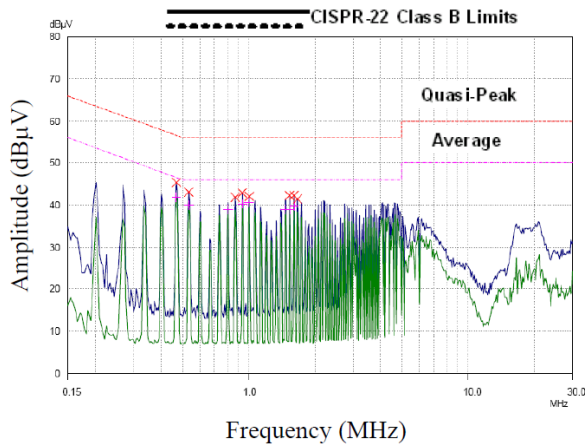

**Figure 20. Burst Mode Operation**
**6. Burst Mode Operation:** To minimize power dissipation in Standby Mode, the power switch enters Burst Mode operation. As the load decreases, the feedback voltage decreases. As shown in Figure 20, the device automatically enters Burst Mode when the feedback voltage drops below  $V_{BURH}$  (600mV). Switching continues, but the current limit is set to a fixed limit internally to minimize flux density in the transformer. The fixed current limit is larger than that defined by  $V_{FB} = V_{BURH}$  and, therefore,  $V_{FB}$  is driven down further. Switching continues until the feedback voltage drops below  $V_{BURL}$  (350mV). At this point, switching stops and the output voltages start to drop at a rate dependent on the standby current load. This causes the feedback voltage to rise. Once it passes  $V_{BURH}$  (600mV), switching resumes. The feedback voltage then falls and the process repeats. Burst Mode alternately enables and disables switching of the power SenseFET, reducing switching loss in Standby Mode.